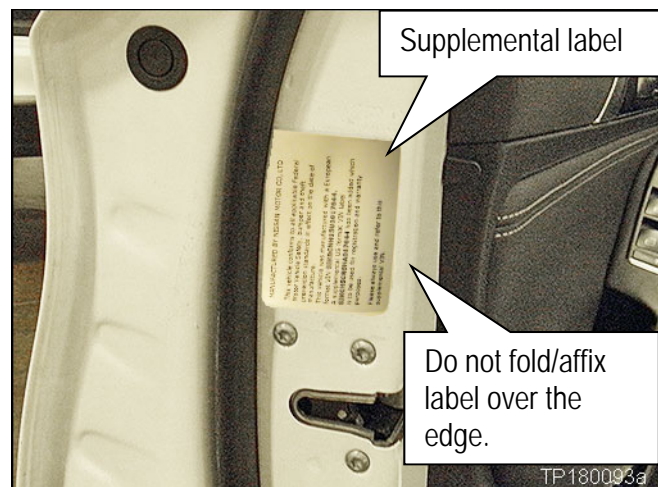

Figure 8
13. Peel the new label from the backing sheet and affix it to the door panel as shown in Figure 8.